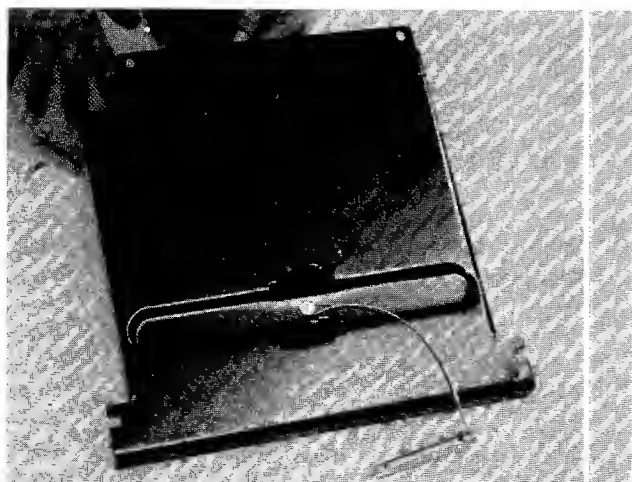

FIGURE 23.
Attach the looped end of hitch pin (O) under head of bolt. See figure 23.